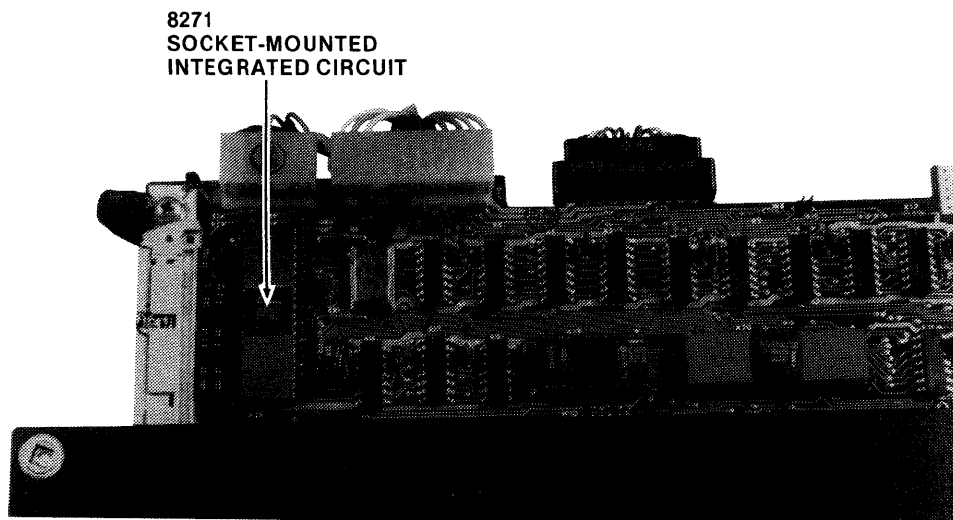

Figure 4-21. MDS-220 Edge Connectors and Socket-Mounted Integrated Circuits
16. Install the 8271 IC (Flexible Disk Controller Chip) in socket location A1 on the IOC board, as shown in Figure 4-21. Check the chip's orientation to make sure that pin 1 is in the upper left-hand corner.